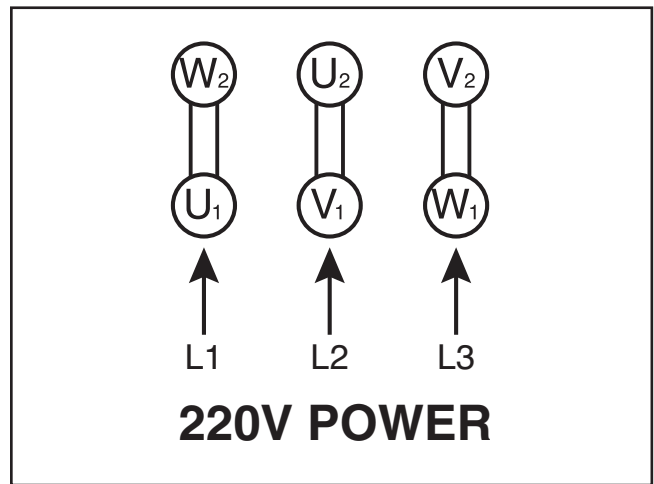

Figure 69. Main motor 440V wiring.
7. Wire the main and hydraulic pump drive motors as shown on the diagrams on the inside of each motor wire cover. Note—**Figures 69 & 70** are provided for reference and are current at the time that this manual was written. However, always use the diagram on the wire cover that comes with your motor! The circled references on the diagrams represent the labels on the wires.